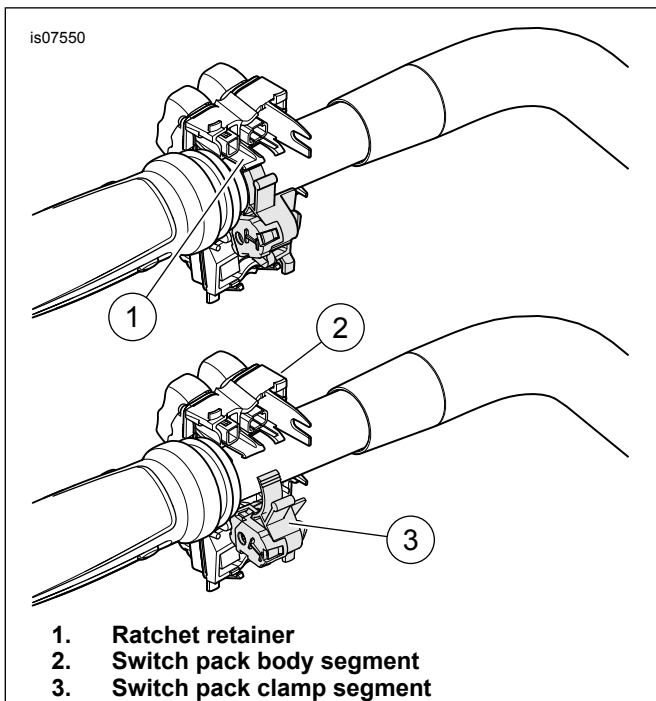

Figure 1. Remove Hand Control Switch Pack
- e. See Figure 1. Pull up on ratchet retainer (1). Rotate switch pack segments (2, 3) apart.